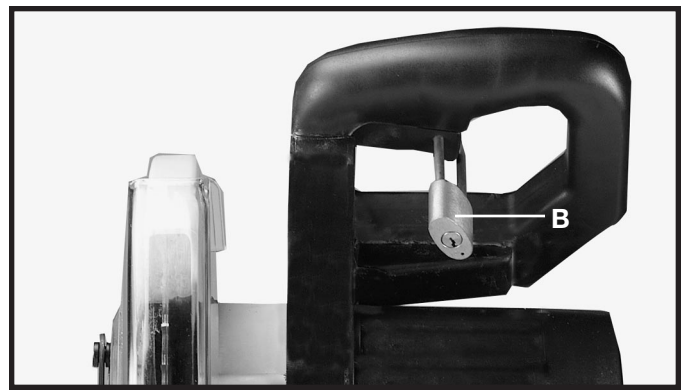

Fig. 13
**IMPORTANT:** When the miter saw is not in use, the switch should be locked in the OFF position using a padlock (B) Fig. 13, with a 3/16" diameter shackle to prevent unauthorized use of the saw.